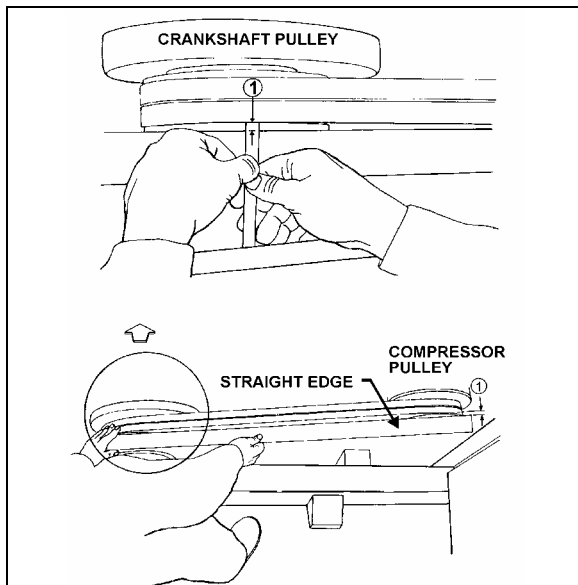

FIGURE 26: COMPRESSOR ALIGNMENT 22040
2. Check the distance between each extremity of straight edge (1. Fig. 26) and the first drive belt. If they are different, loosen the compressor support bolts and with a hammer, knock support to slide it in order to obtain the same distance; then tighten bolts.
2. Check the distance between each extremity of straight edge (1, Fig. 26) and drive belt. If they are different, loosen the pillow block compressor bolts and with a hammer, knock compressor pillow block to slide it, in order to obtain the same distance; then tighten bolts.